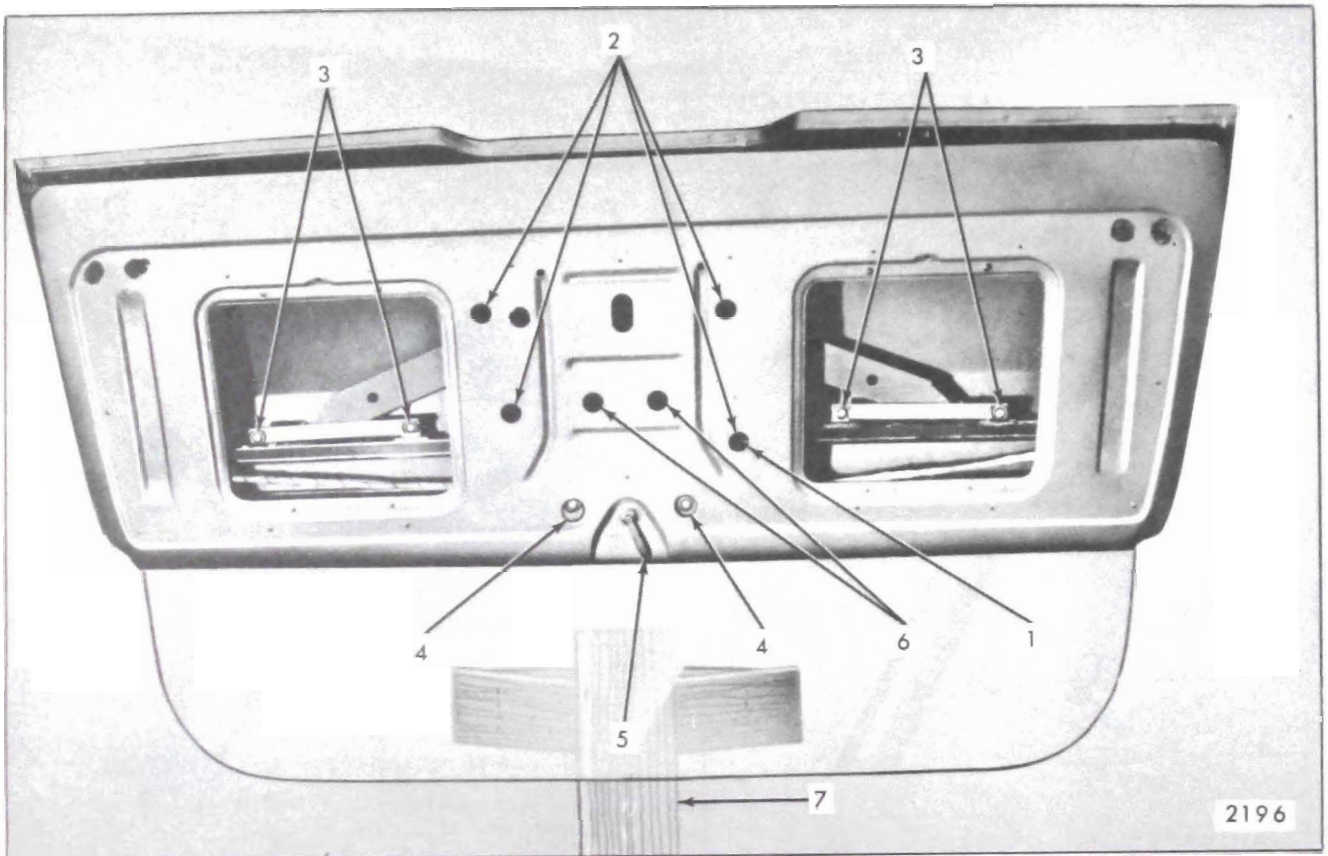

Fig. 9-13—Tail Gate Window Hardware
2. Position tail gate window so that outside handle (or key switch) attaching nuts are accessible through gate inner panel and window regulator access holes. (See Fig. 9-13).